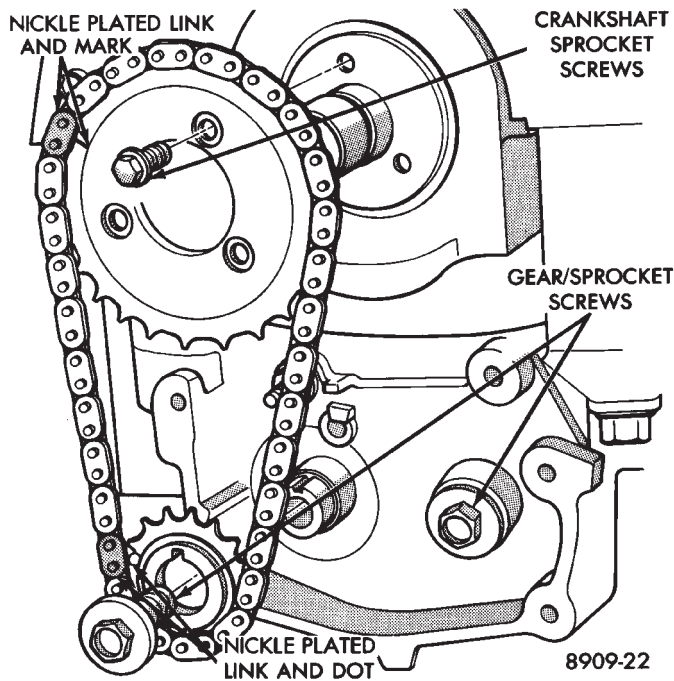

Fig. 17 Drive Chain and Sprockets
(2) Remove balance shaft gear and chain sprocket retaining screws and crankshaft chain sprocket torx screws. Remove chain and sprocket assembly. (Fig. 17)
(7) Place balance shaft sprocket into the timing chain (Fig. 17) so that the timing mark on the sprocket (yellow dot) mates with the (lower) nickel plated link on the chain
(8) With balance shaft keyways pointing up 12 o'clock slide the balance shaft sprocket onto the nose of the balance shaft. The balance shaft may have to be pushed in slightly to allow for clearance.